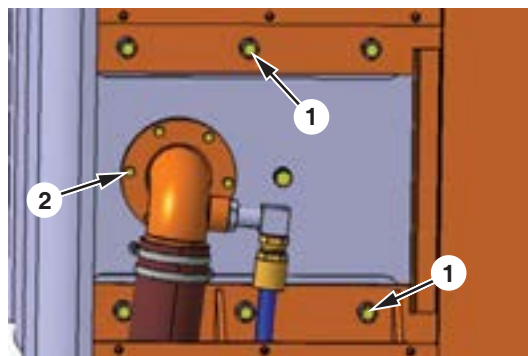

Figure 17 Bottom of Main Frame
21. Remove oil tank mounting bolts and spacers (1, Figure 17) (6 ea) from the main frame.
22. Remove bolts (2, Figure 17) (6 ea) of suction pipe from the oil tank.